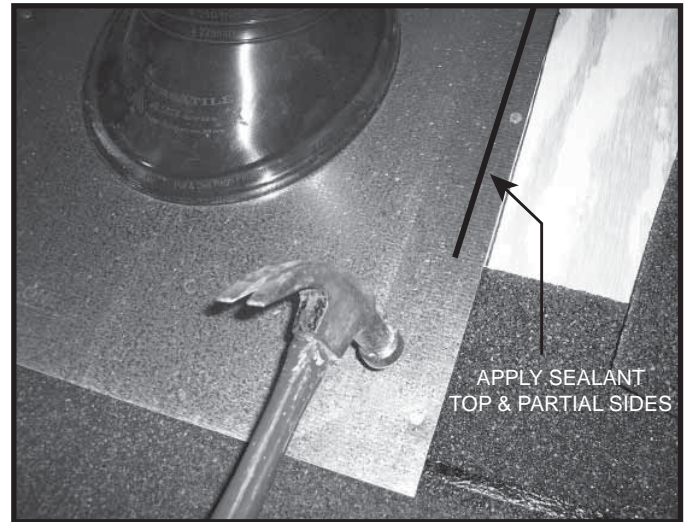
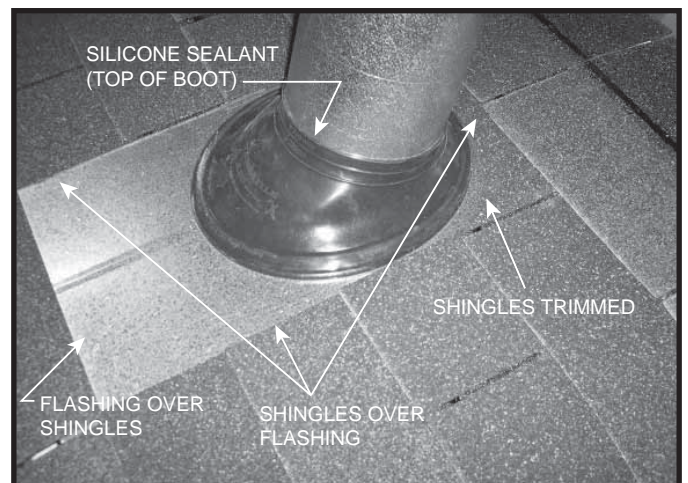

Figure 8.21 Slide Flashing Down, Secure & Apply Sealant
Figure 8.22 Installation Complete
- Apply silicone sealant on the top outside of the base plate on the sides and on top edge. See Figure 8.21. Install shingles, Apply sealant at the top edge of the rubber boot. See Figure 8.22.